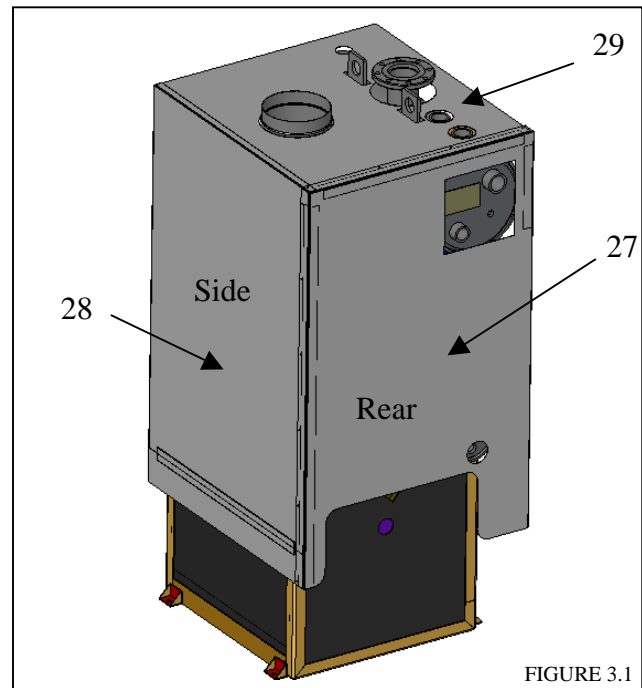

FIGURE 3.1
3.4 Place jacket rear (Item #27) in place. Starting at the top left corner of jacket rear, work the top and sidetracks onto the jacket top and jacket side until jacket rear is in place. See Fig. 3.1.